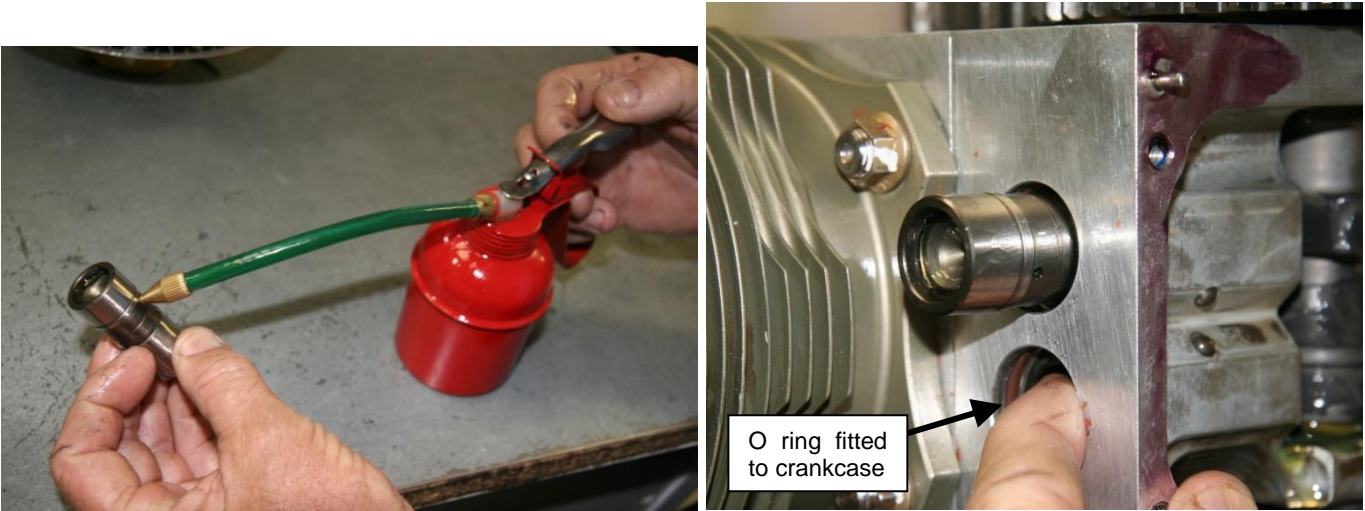

Figure 189 – Fitting Hydraulic Lifter To Crankcase
2. For hydraulic lifter engines, fill the lifters with oil (using an oil can - Figure 189) and fit the lifters to the crankcase. The outside of the lifter must also be well lubricated with oil before fitting and note also the light covering of grease which has been applied to the camshaft lobes – this is to minimise wear during initial start-up. Note that solid lifter engines have their lifters fitted before crankcase assembly – there is no way to do it once the case halves are assembled.
4. Fit new O rings to the crankcase to seal the pushrod tubes (solid lifter models) – see Figure 189.